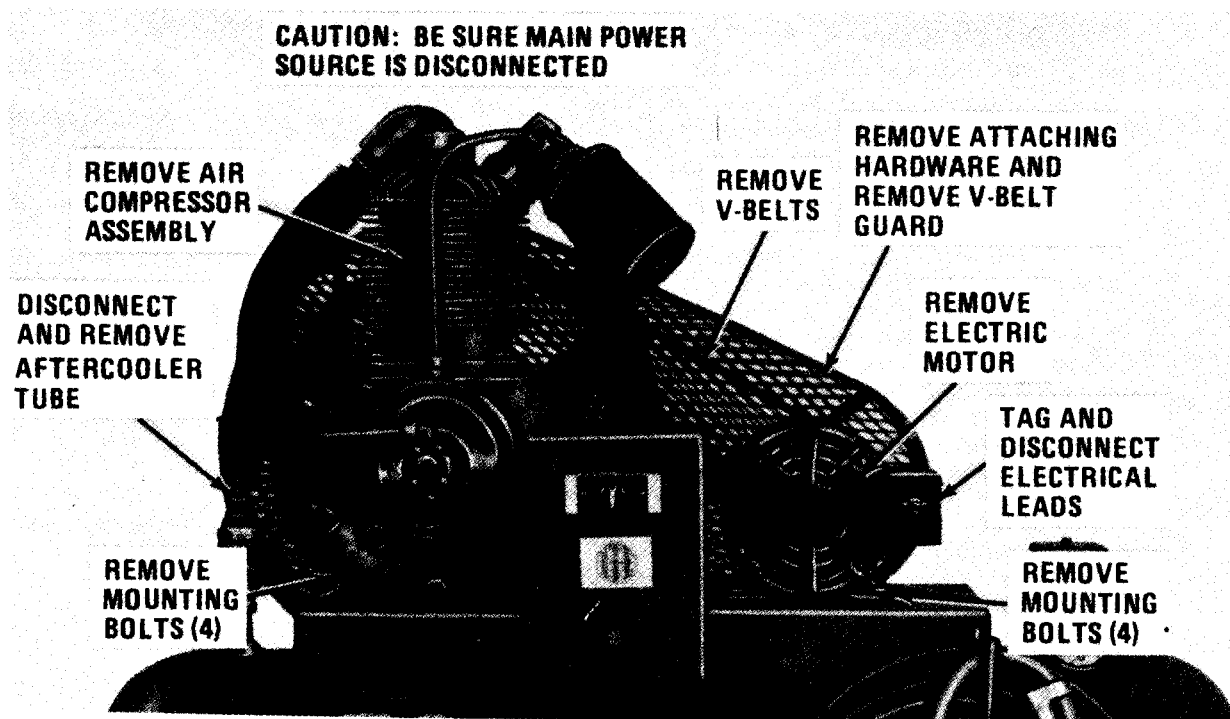

Figure 5-4. Electric motor and compressor, cleaning, V-belt removal and installation.
**a.** Loosen motor mounting screws (fig. 5-4) securing motor to receiver. Move motor toward compressor, then lift belts off of the pulley .
<p style="text-align: center;">WARNING</p> <p>Dry cleaning solvent P-D-680, used to clean parts, is potentially dangerous to personnel and property. Use in a well ventilated area as the fumes are dangerous if inhaled. Do not use near open flame or excessive heat. Flash point of solvent is 100°F. -138°F. (38°C. -59°C. ).</p> <p>(2) Wash all parts of the muffler and wipe dry. Wash element and blow dry with low compressed air.</p> <p>(3) Inspect element for excessive wear or loss of capacity to retain dust and dirt. Replace a defective element.</p> <p>c. Reassemble the intake muffler as follows:</p> <p>(1) Install the T-stud (21), ferrule (20), upper cover (19), plate (18), separator (17), element (16), screen (15), lower cover (14), and wing nut (13).</p> <p>(2) Tighten wing nut finger tight.</p> <p>Step 2. Check V-belts for proper adjustment. Also make a visual inspection of belts and condition to determine if the belts require removal for cleaning and deglazing. If deglazing appears necessary, remove the lock belt guard.</p> <p>a. Loosen motor mounting screws (fig. 5-4) securing motor to receiver. Move motor toward compressor, then lift belts off of the pulleys.</p> <p style="text-align: center;">WARNING</p> <p>Dry cleaning solvent P-D-680, used to clean parts, is potentially dangerous to personnel and property. Use in a well ventilated area as the fumes are dangerous if inhaled. Do not use near open flame or excessive heat. Flash point of solvent is 100°F. -138°F. (38°C. -59°C. ).</p> <p>b. Use a cloth dampened in dry cleaning solvent P-D-680 to remove oil and dust film. If the belts appear to have been saturated, and the heat has glazed the surfaces of the Vee's, proceed as follows:</p> <p>c. Use a medium grade of grit sand paper (not emery cloth) and rough up the surface with strokes of uneven direction.</p> <p>d. Wipe off all grit particles. When surfaces have been deglazed, install the belts on pulleys.</p> <p style="text-align: center;">NOTE</p> <p>When installing new belts, never pry the belts over the pulley grooves.</p> <p>e. To adjust the belts, move the motor away from the compressor until there is tension on the V-belts. Depress one of the V-belts midway between the pulley and flywheel; when the top lines up with the bottom of the belts next to it under normal thumb pressure the tension is correct.</p> <p style="text-align: center;">CAUTION</p> <p>Do not adjust the V-belts too tightly as this will overload motor and compressor bearings. Also check and be sure pulley alignment is maintained.</p> <p>f. Tighten motor mounting bolts securely.</p> <p>Step 2. Check oil level in crankcase for low oil.</p> <p>Step 4. Check for faulty intake and exhaust valves.</p>